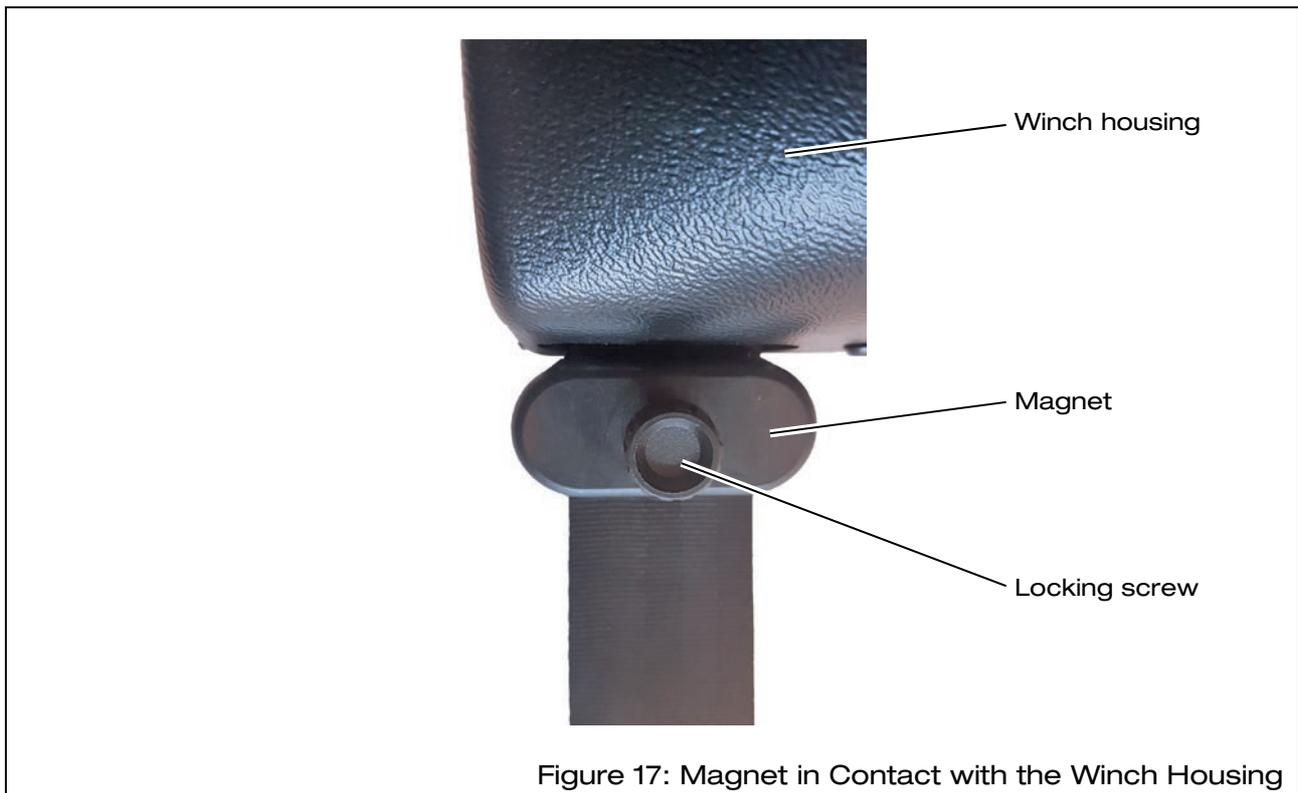

Figure 17: Magnet in Contact with the Winch Housing
- ⇒ Adjust the magnets, such that they make contact with the winch housing (see Figure 17, page 29).